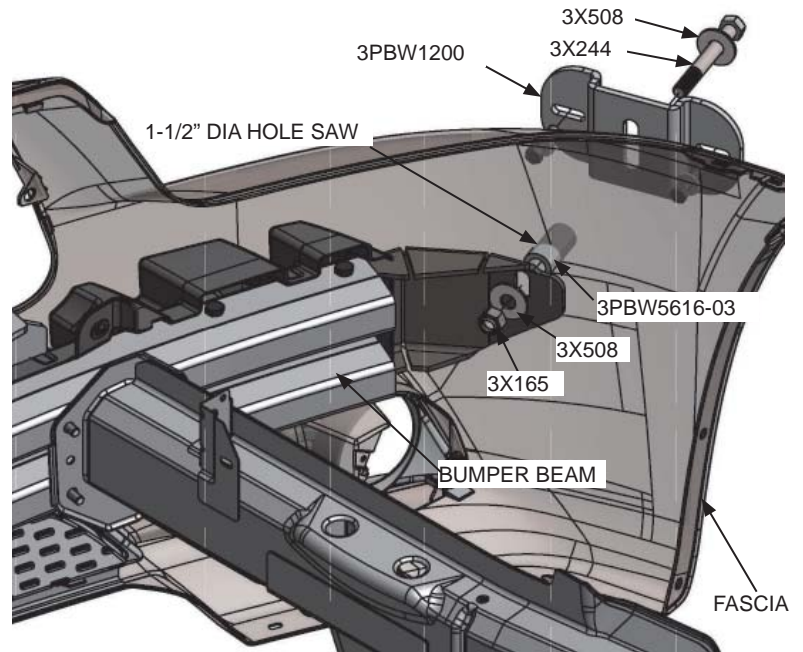

FIG. 3 - VIEW INSIDE FASCIA
- A. Align the 3PBW5616-03 standoff with the slot on the 3PBW5616-02P brackets through the hole in the fascia and the center hole on the 3PBW1200 hat channel bracket (Fig. 3).
- B. Fasten the parts together using the provided 3X244 bolt, 3X508 washers and 3X165 nut as shown (Fig. 3) by accessing the bracket underneath and through the fender liner.